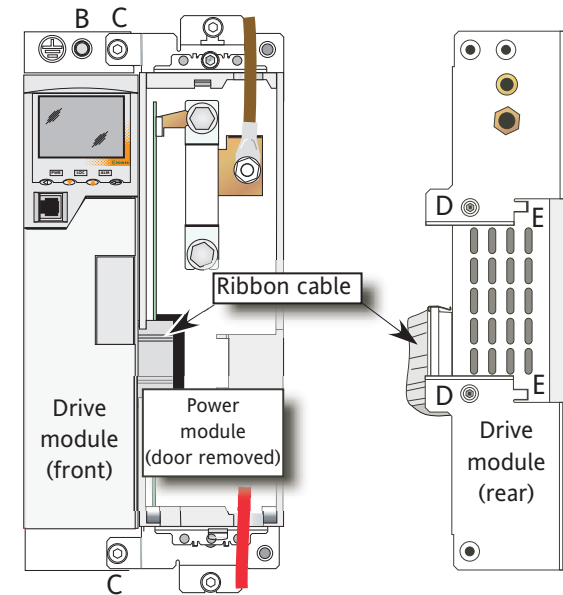

Figure 2.2 Drive module demounting
2. Remove the safety earth connection (B in figure 2.2).